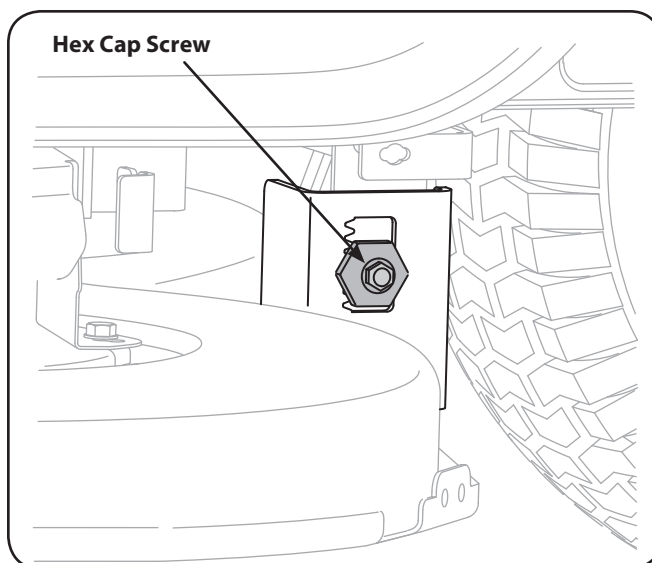

Figure 6-6
3. Loosen, but do NOT remove, the hex cap screw on the left deck hanger bracket. See Fig. 6-6.